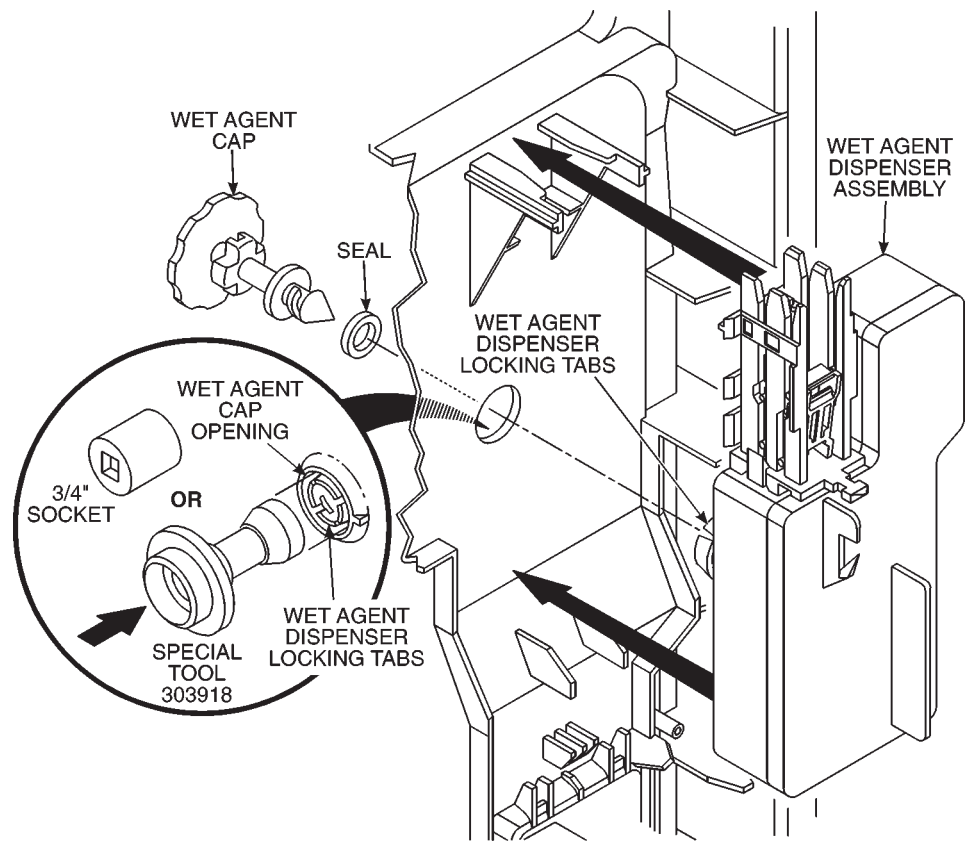

Fig. 1-29
4. Turn the wet agent cap and seal assembly counterclockwise and remove it. (Fig. 1-29)
7. Press the wet agent dispenser assembly into position so the locking tabs engage the wet agent cap opening. No tool is needed for assembly. (Fig. 1-29)